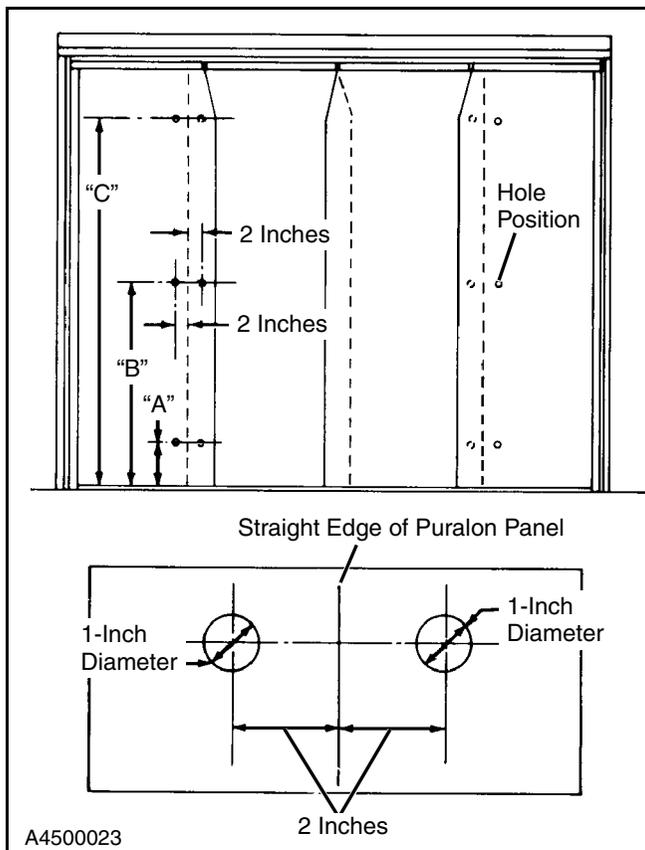

Figure 33
3. Mark the position of the holes for the knobs on the panels. Each panel has a straight edge and an edge with a 45° cut at the top. Measure from the straight edge to locate the pair of holes. (See Figure 33.)